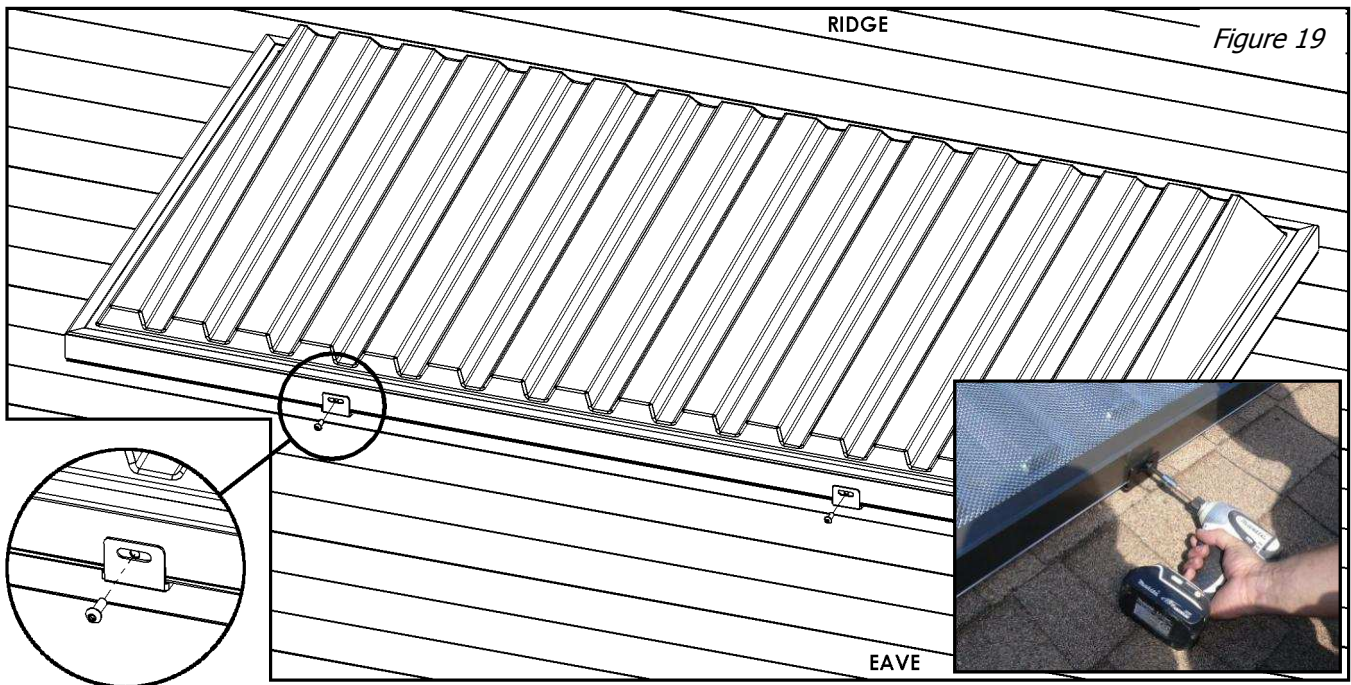

Figure 19
Step 14. Move the Glazing Assembly into place. As shown in Figure 19, install the two 3/8"-16 x 1" button head cap screws by passing them through the slots and into the threaded inserts in the lower aluminum extrusion.